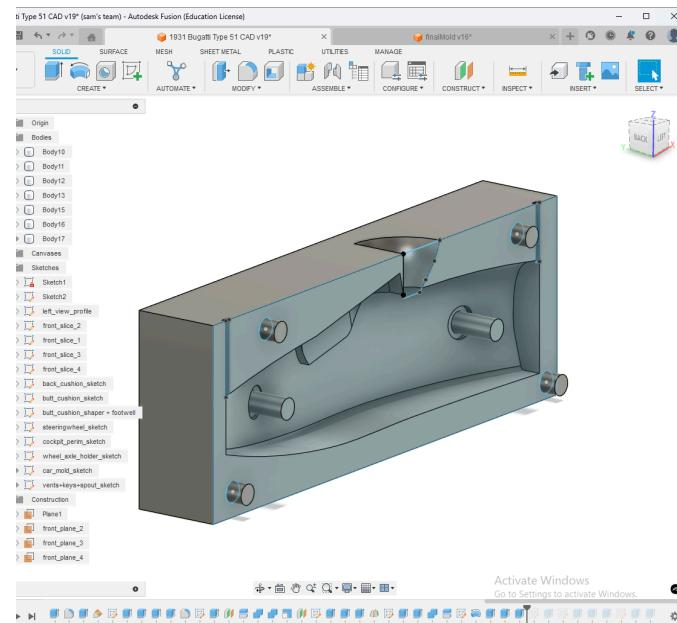
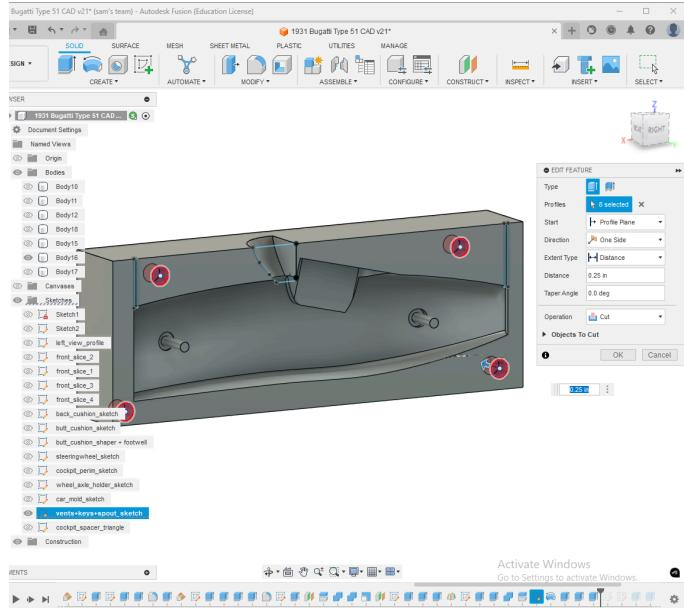

Fig. 34: ‘Male’ half of the mold
Fig. 35: 'Female' half of the mold.
8. Extrude the vents symmetrically from the midplane. For the keys, have one half of the mold be ‘male’, and the other half ‘female’. Make the ‘female’ hole diameter larger than the cylinder so that there is tolerance (~0.01 in) due to the nature of 3D printing. Use the revolve cut feature to make the spout. **Fig. 34** shows the ‘male’ mold, and **Fig. 35** shows the ‘female’ mold. You may also consider chamfering the pins for ease of assembly.